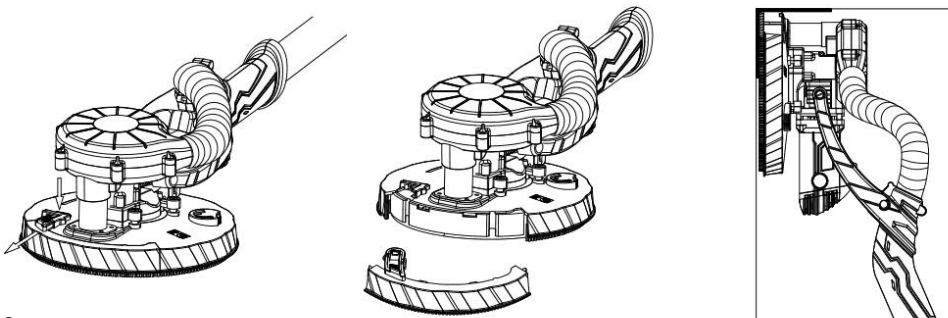

fig. 9
12. Grinding adjacent edges (figure 9).